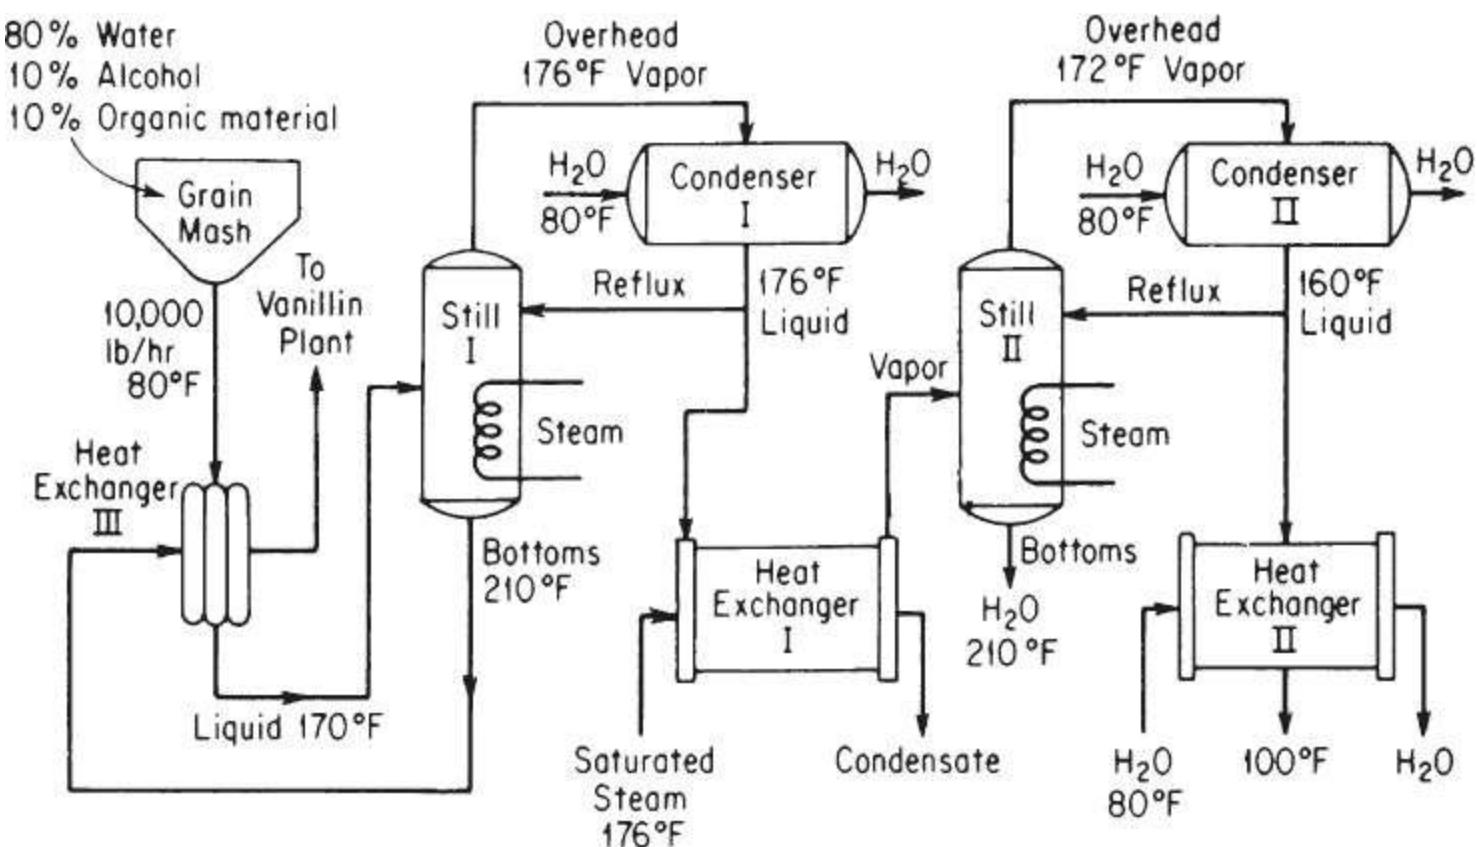

Figure P16.7
16.7. The Blue Ribbon Sour Mash Company plans to make commercial alcohol by a process shown in Figure P16.7. Grain mash is fed through a heat exchanger where it is heated to 170°F. The alcohol is removed as 60% by weight alcohol from the first fractionating column; the bottoms contain no alcohol. The 60% alcohol is further fractionated to 95% alcohol and essentially pure water in the second column. Both stills operate at a 3:1 reflux ratio and heat is supplied to the bottom of the columns by steam. Condenser water is obtainable at 80°F. The operating data and physical properties of the streams have been accumulated and are listed for convenience: